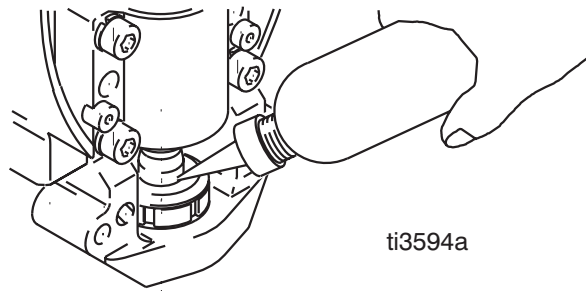

FIG. 21
4. FIG. 21. Fill packaging nut with ASM Throat Packing Seal Fluid until fluid flows onto top of seal.